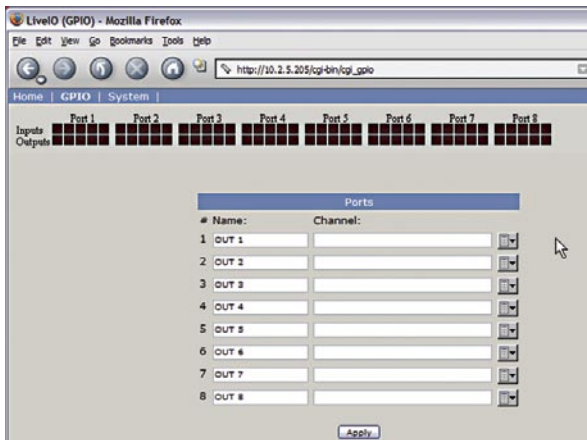

Figure 3-3: GPIO definitions page
3. If you haven’t previously assigned any GPIO ports, the GPIO definitions screen will be blank, as shown in Figure 3-3. Notice the status indicators at the top of the page, showing the state of the input and output pins of each port. Click on the list icon to the right of an unused line.